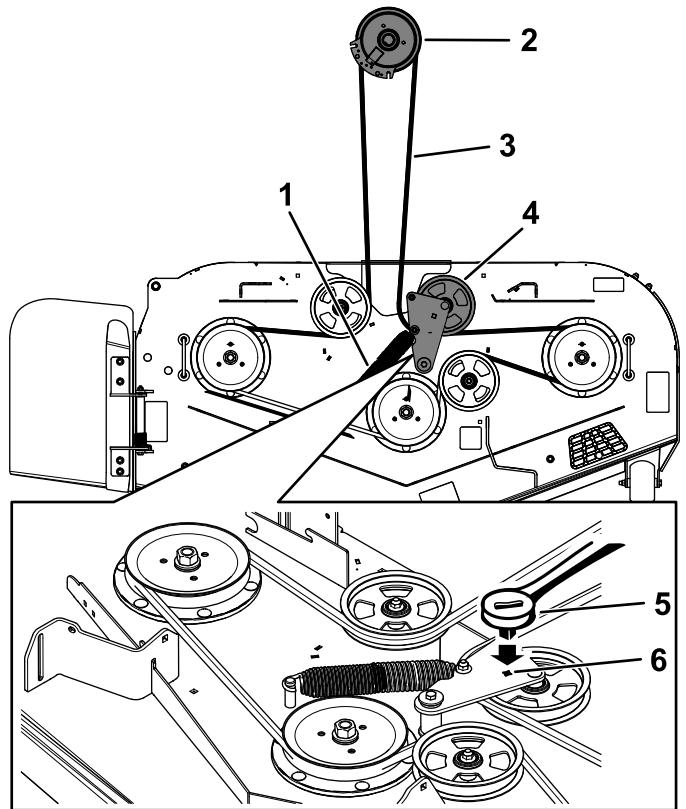

Figure 18
1. Use a 3/8-inch ratchet in the square hole in the idler arm to remove tension on the idler spring (Figure 18).
14. Install the mower deck belt around the spring-loaded idler pulley (Figure 18).